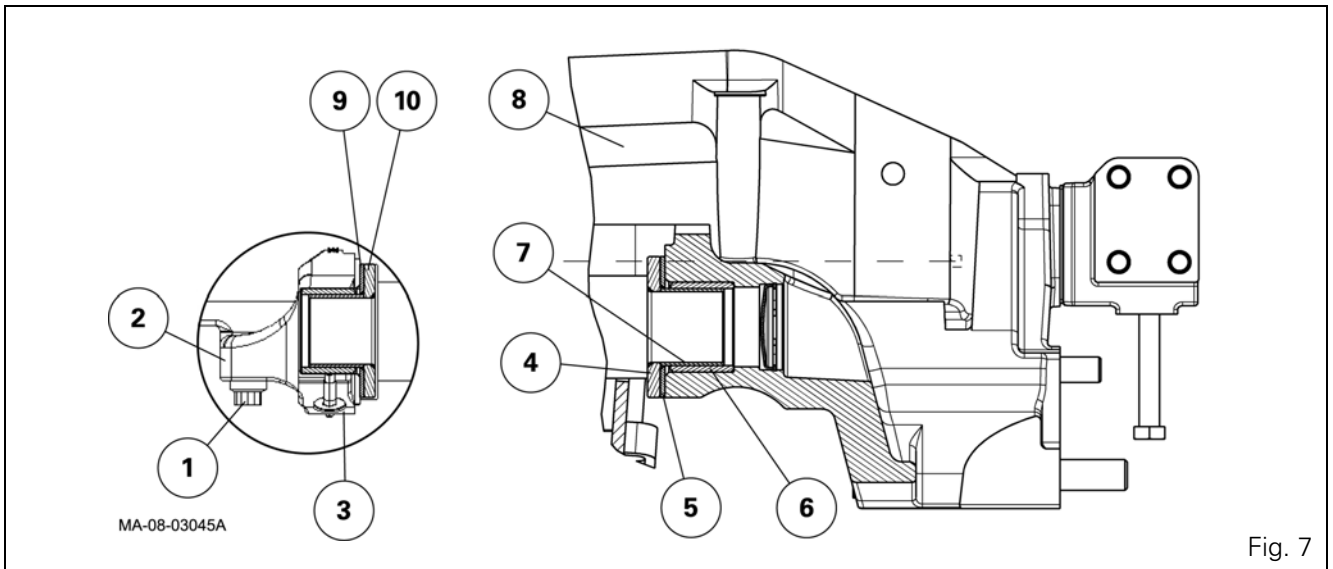

Fig. 7
- 69.** Remove screws (1) and grease nipple (3). Remove front bearing (2) and washers (9)(10) (Fig. 7).
- 70.** Remove front axle beam by releasing it from the front frame (8) (Fig. 7).
- 72.** Sling and engage the axle beam in the front frame bearing (8) after previously turning the chamfer of washers (5) (6) towards the axle beam (Fig. 7).
- 73.** Position the washers (9)(10) (with chamfer turned towards the axle beam) (Fig. 7). Fit the front bearing (2) to reduce to a minimum the clearance between the washers and axle beam.
- 74.** Lightly smear screws (1) with Loctite 270 or equivalent (Fig. 7) and tighten them to a torque of 520 - 640 Nm. Remove the sling.
- 75.** Reassemble the ram (2) on the axle beam (12).
- 77.** Fit the grease nipples (Fig. 7).
- 78.** Grease the two bearings (Fig. 7).
- 79.** Fit the nuts and screws (14) to a torque of 260 Nm.
- 80.** Fit the screws (11) to couple the link rods (5) and ball joints (6) and tighten nuts to a torque of 70 Nm.